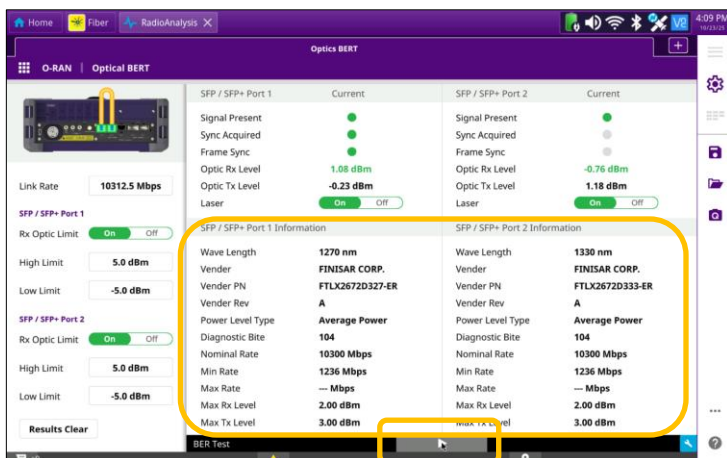

Figure 9: BiDi SFP+ (10G) Example
5. Figures 9 and 10 (below) show the parameters and test results for an SFP+ (10G) BiDi pair